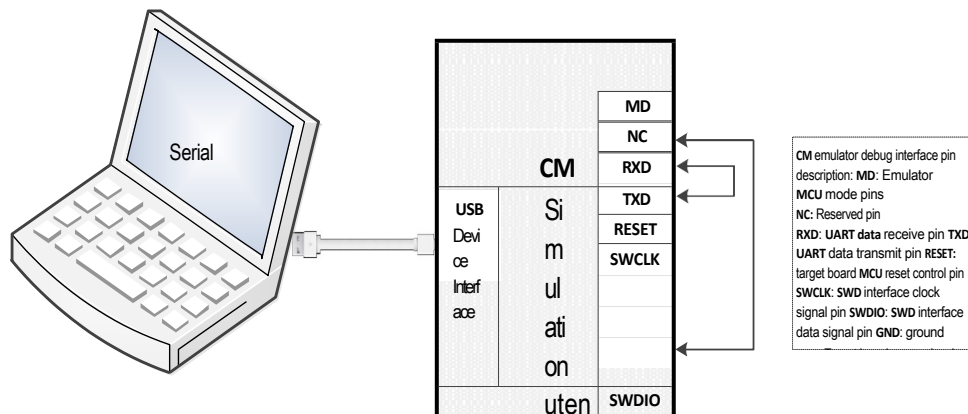

Figure 12 PC and CM Emulator Connection
2. Refer to Figure 12 to connect the CM emulator to the computer via the USB cable: